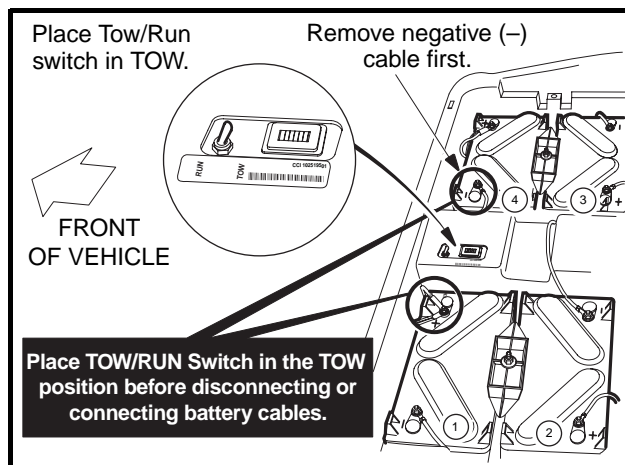

Figure 1-1 Battery Disconnection
- To avoid unintentionally starting the vehicle, disconnect the batteries as shown (Figure 1-1).